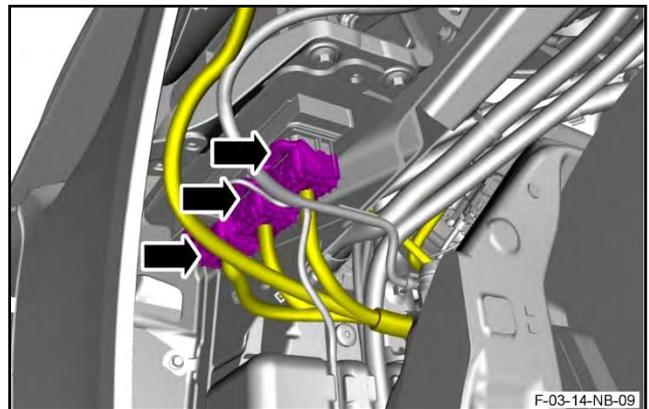

Figure 9
15. Disconnect the three electrical connectors from the PCM (refer to Figure 9).